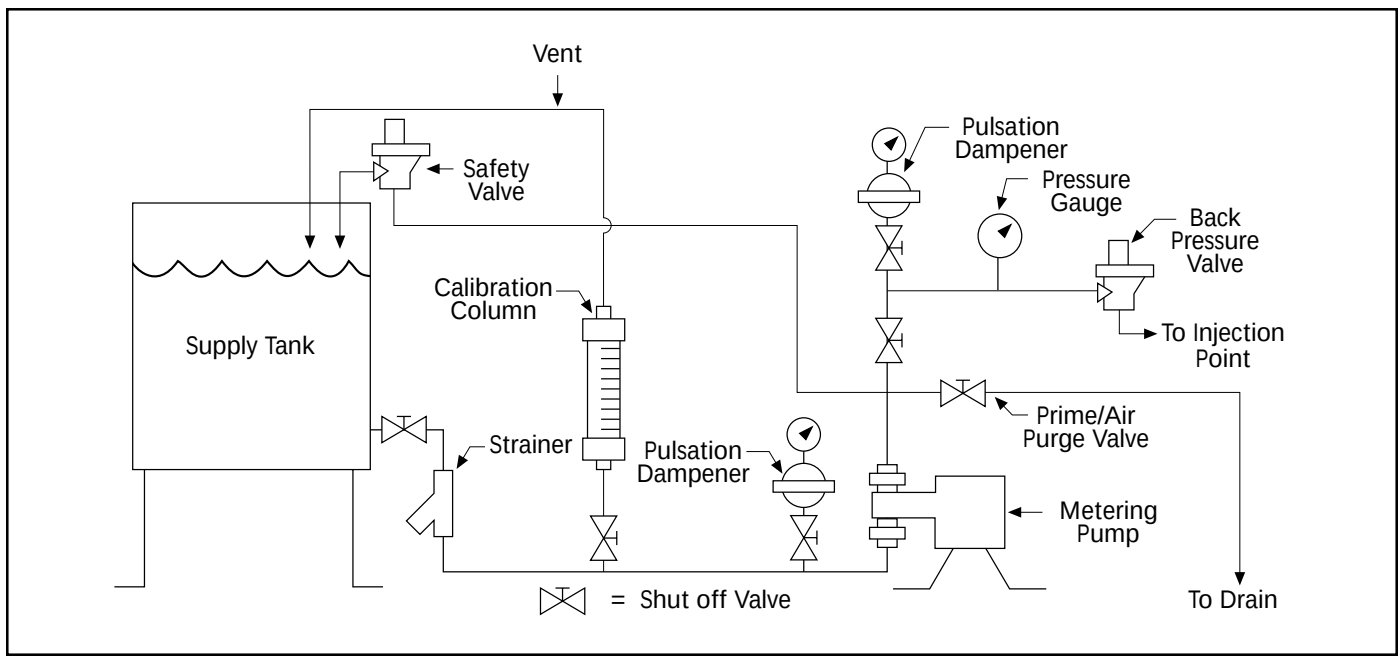

Figure 5: Typical Recommended Pump Installation Scheme
- See Figure 5 for a typical recommended pump installation scheme.
Install the safety valve in the discharge line between the pump and the nearest shut-off valve (this will prevent pump damage from accidental valve closure). Pipe the safety valve outlet back to the suction tank or to drain, but in either case ensure that the pipe end is continuously visible so safety valve leakage may be detected. LMI safety valves must be installed at top of supply tank in order to function properly (see Figure 5).
Provide shut-off valves in both suction and discharge lines next to the pump. Locate discharge line shut-off valve downstream from the inlet connection of the safety valve. Figure 5 shows recommended valve locations.